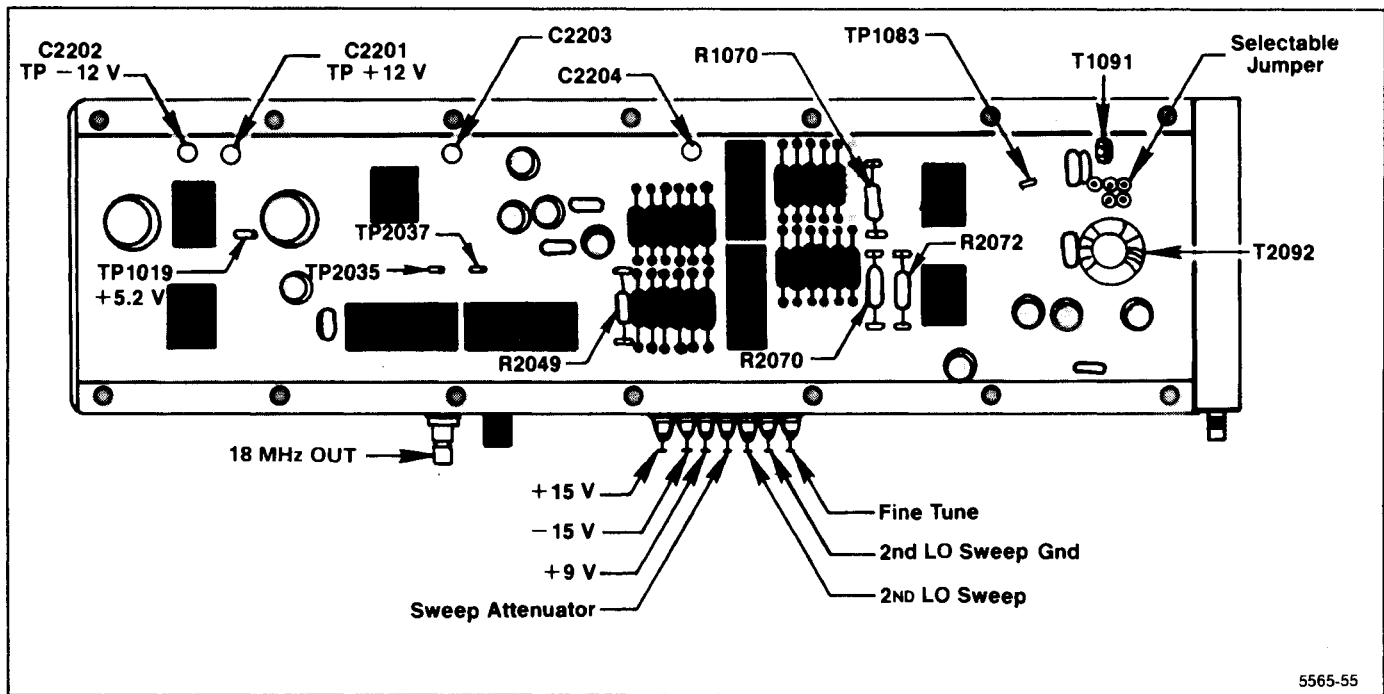
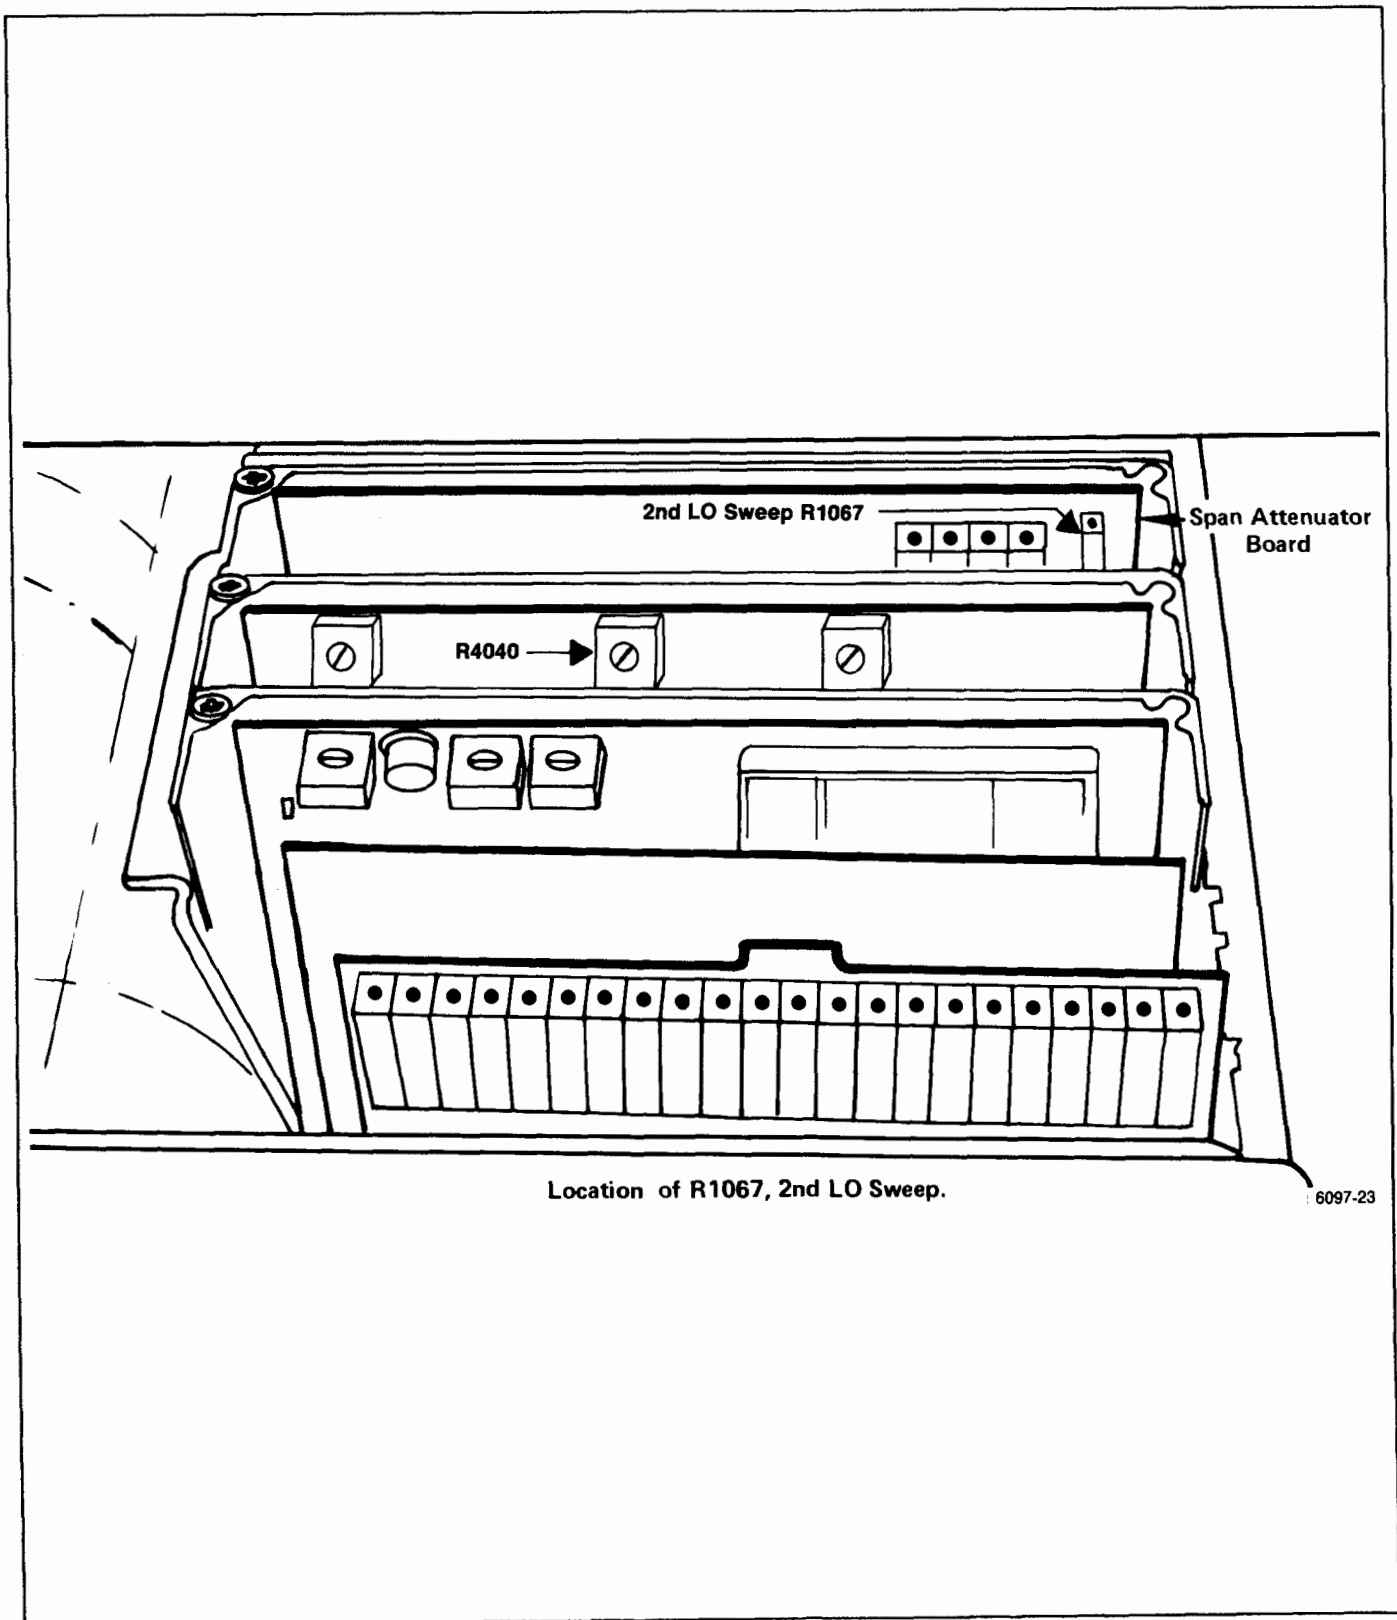

Figure 6-20. 16—20 MHz Phase Lock circuit test point and component locations.
Figure 6-24. Tune and Sweep Range adjustments.
Remove the 14 screws that hold the cover on the mu-metal section and remove the cover. Unsolder the leads to feedthrough capacitors C2203 and C2204. (These are the center two feedthrough terminals that feed through the circuit board, as shown in Figure 6-20.)
4. Remove the mu-metal lid and reconnect the leads to feedthrough capacitors C2203 and C2204, on the Phase Lock board (Figure 6-20). Replace the lid and install the 14 screws. Tighten the screws from the
This side of the assembly contains the 16-20 MHz Phase Lock circuit board (see Figure 6-20). Replacing oscillator components in this section may alter sweep linearity and frequency of the 16-20 MHz oscillator. The following checks and calibration should aid in repairing and returning the assembly to satisfactory operation.
a. Check all input voltages at the feedthrough capacitors in the housing wall. Refer to Figure 6-20 or the data printed on the lid. The voltage LEVEL at the sweep and tune input lines should be $0\text{ V} \pm 0.05\text{ V}$ with the FREQ SPAN/DIV $\geq 500\text{ kHz}$.
c. Switch POWER on, then check the internal regulated voltages; $+12\text{ V} \pm 0.4\text{ V}$ at C2201, $-12\text{ V} \pm 0.4\text{ V}$ at C2202, and $+5.2\text{ V} \pm 0.25\text{ V}$ at TP10109 (see Figure 6-20). Check the output of the shaper at TP1083 for a level between $+0.3\text{ V}$ and -0.3 V ($0\text{ V} \pm 0.3\text{ V}$).
a. Center the Fine Tune adjustment R4040, on the Center Frequency Control board and the 2nd LO Sweep adjustment R1067, on the Span Attenuator board (Figure 6-24).
c. Press <SHIFT> 7 to disable frequency correction; then press <SHIFT> 0, and select item 0 from the menu. Now select frequency display of 2nd LO (2). Readout will now indicate the 2nd LO frequency.
d. Tune the 2nd LO to one end of its range where the frequency readout no longer changes. Note the frequency and measure the voltage on the Tune Line at the input feed-through capacitor (Figure 6-20).
c. Adjust the 2nd LO Sweep R1067, on the Span Attenuator board (Figure 6-24), so the comb lines on opposite sides of the screen, are exactly 8 major divisions apart.
(1) A shaper diode or resistor may be defective if the comb line spacing is consistent for part of the tuning range and 30 kHz or more off for the other parts of the sweep. To test the diodes for forward conduction, tune to the low end of the range and short R2049 (Figure 6-20). The output of U1073A (pin 1) should equal about +3 V. U1059 diodes B through G and U2059 diodes A through F should all have a 0.48 V forward drop. Use a floating or digital voltmeter to check the drop.
(2) Turn POWER off then temporarily replace Shaper resistor R2049 with a 20 k Ω potentiometer. Switch POWER on, and adjust the potentiometer to obtain the best overall linearity; decreasing resistance will decrease the spacing between comb lines in the upper portion of the tune range and spread the spacing for the lower portion. Increasing the resistance of R2049 will reverse the effect. When